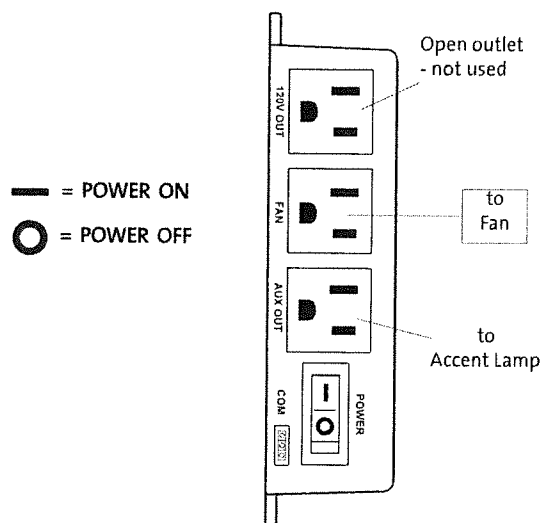

Figure 6.33 Fan Control Module power switch.
1. **Turn the Fan Control Module rocker switch to the ON position**, fig. 6.33. It is located in the right side compartment, under the Accent Lamp control.